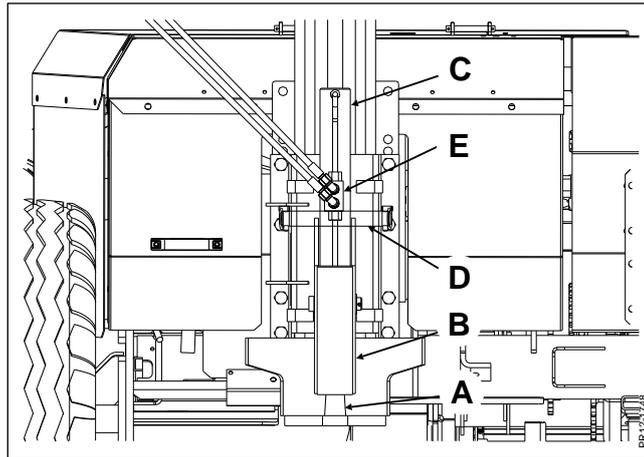

Fig. 3-4
**IMPORTANT:** When driving on public roads with a trailer connected to the hydraulic hitch **B**, the locking pin **D** **MUST** be removed from its holder and lead through the frame on the hydraulic hitch **B** so that the hitch hook **A** is locked mechanically, see fig. 3-4. This must be done in order to observe the traffic rules.
**Fig. 3-4** The trailer is disconnected as follows: If the locking pin **D** is placed so that it locks the hitch hook **A**, see figure 3-4, the locking pin **D** is removed and placed in the holder on the hydraulic hitch **B**. Then the hitch hook **A** is lowered by activating the cylinder **C**. When the hitch hook **A** has been lowered completely, the trailer is disconnected. Also remember to disconnect plugs for lighting and hoses for tipping and brakes, if these were mounted.